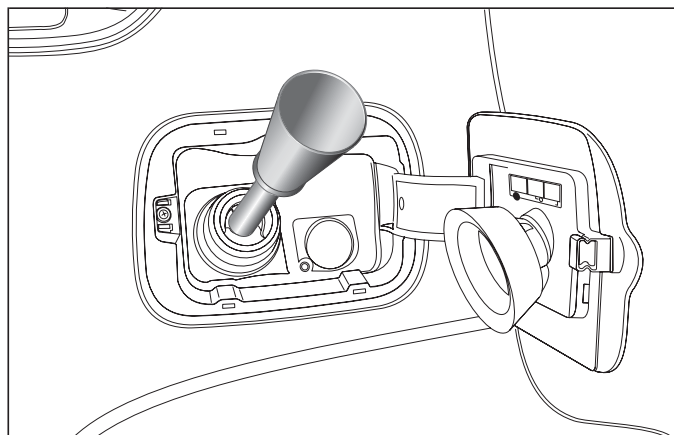

fig. 85
- insert adapter B in the filler as shown in fig. 85 and refuel;